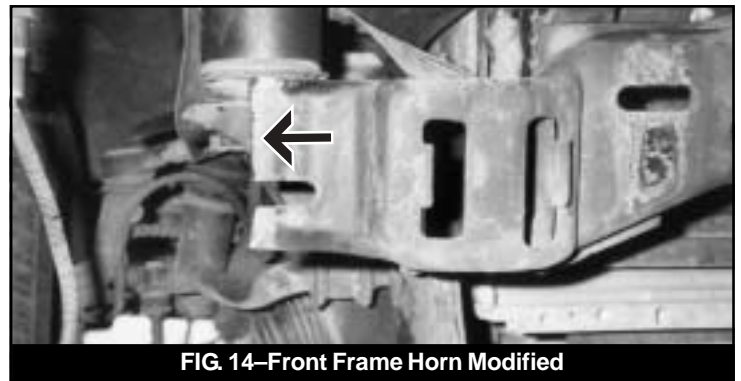

FIG. 14—Front Frame Horn Modified
- The frame must be modified to provide clearance for the fog lights (if equipped) that are mounted in the bumper. Figure 14 shows the cut required. Remove approximately 1/3 of the outer slots.